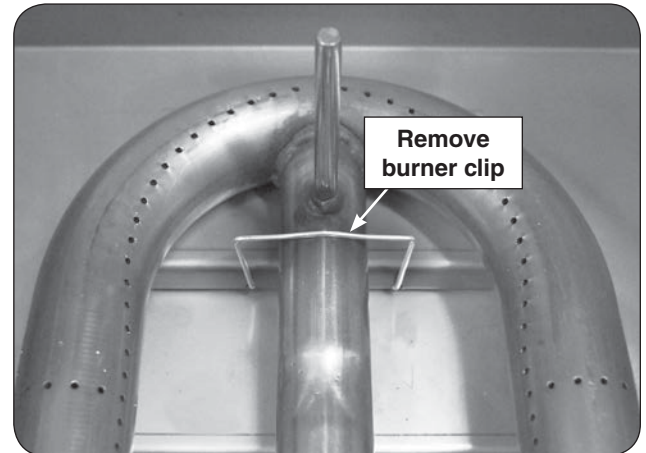

Fig. 38-2 Main burner removal
2. Locate the burner clip (located over the rear center tube of the burner) and slightly pinch and remove the clip from the burner support. See Fig. 38-2.